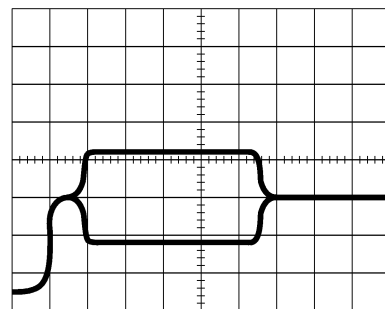

figure 5
► Lower the sweep coefficient again, to 0.5 $\mu\text{s}/\text{div}$. The burst now appears on the full screen, and may be examined in detail (Figure 5). Note that the sweep start position remains unchanged with respect to the signal. It can be further fine-tuned by adjusting the DELAY control.